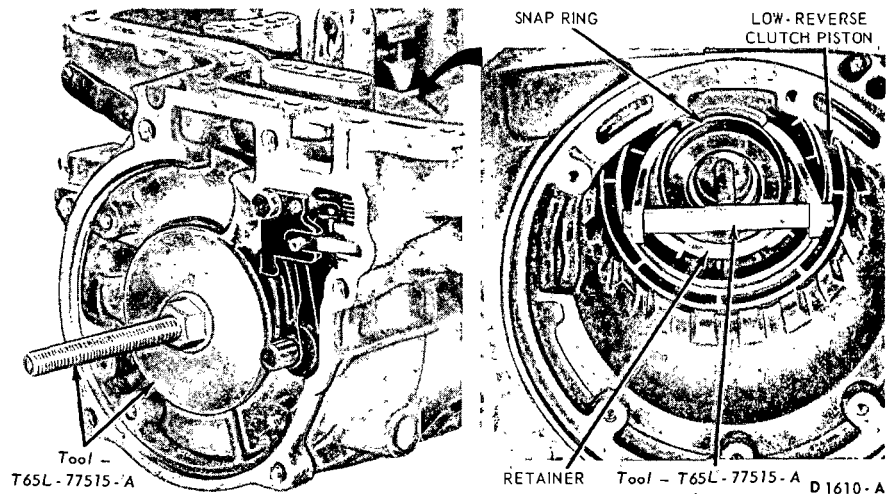

FIG. 37—Compressing Low-Reverse Clutch Springs
20. Compress the reverse clutch piston release spring with tool T65P-77515-A (Fig. 37). Remove the snap ring. Remove the tool and the spring retainer.